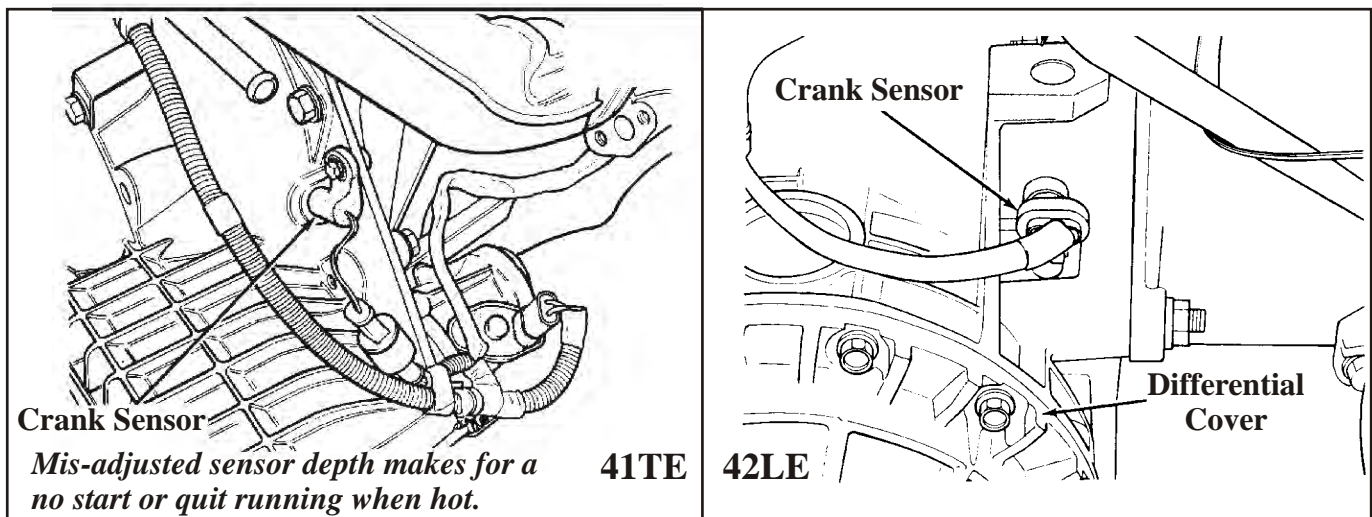
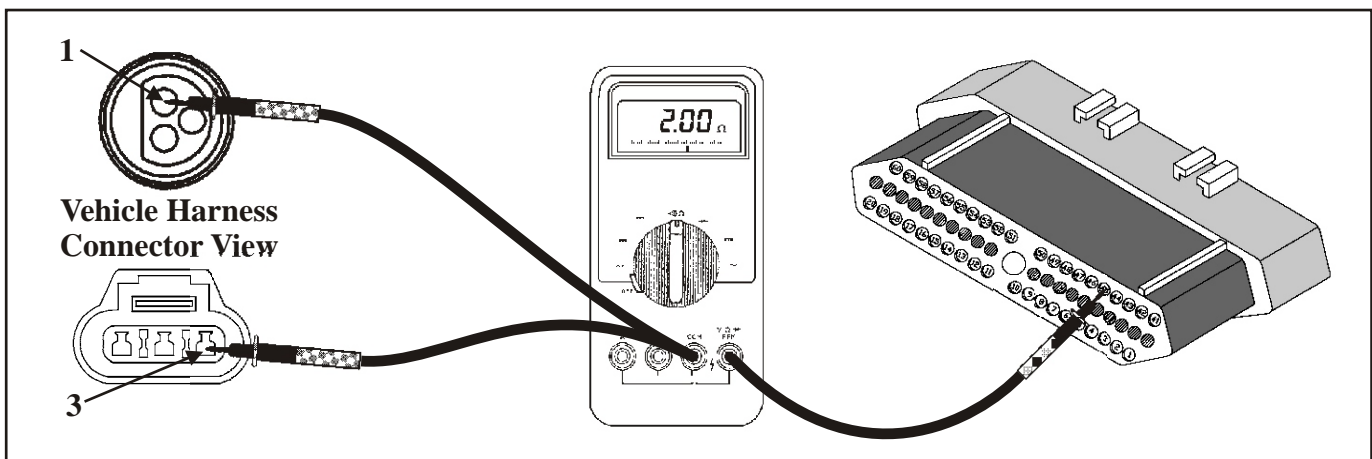

Figure 26
Figure 27
- Locate the crank sensor as shown in Figure 26. Unplug both the crank sensor and the TCM. For **89-95** 3.3 and 3.8L applications perform a continuity check across terminal 1 in the crank sensor connector to terminal 45 in the TCM connector. For all LH vehicles and 96 and later 3.3 and 3.8L, check across terminal 3 in the crank sensor connector to terminal 6 in the TCM connector (See Figure 27). If there is no continuity, repair or replace the wire.